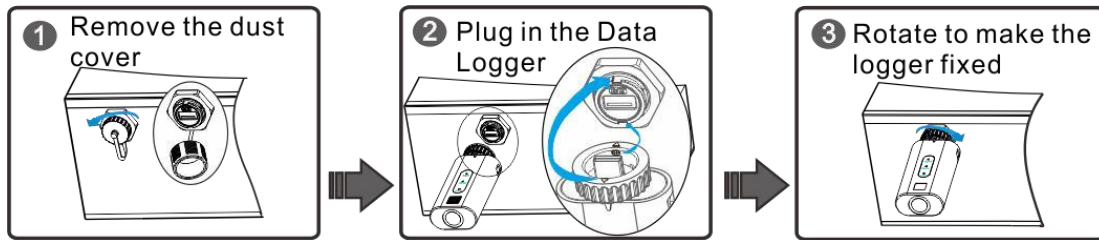

Figure 3-5 Installing the data collector
1. This step is only for scenarios where the data collector is configured. Figure 3-5 shows the installation method.